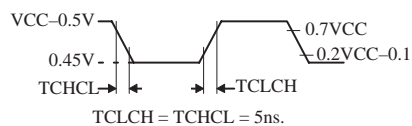

Figure 11 Clock Signal Waveform for ICC Tests in Active and Idle Modes
- Operating ICC is measured with all output pins disconnected; XTAL1 driven with TCLCH, TCHCL = 5 ns (see Figure 11), VIL = V_{SS} + 0.5V, VIH = V_{CC} - 0.5V; XTAL2 N.C.; $\overline{\text{EA}}$ = RST = Port 0 = V_{CC}. ICC would be slightly higher if a crystal oscillator used (see NO TAG).